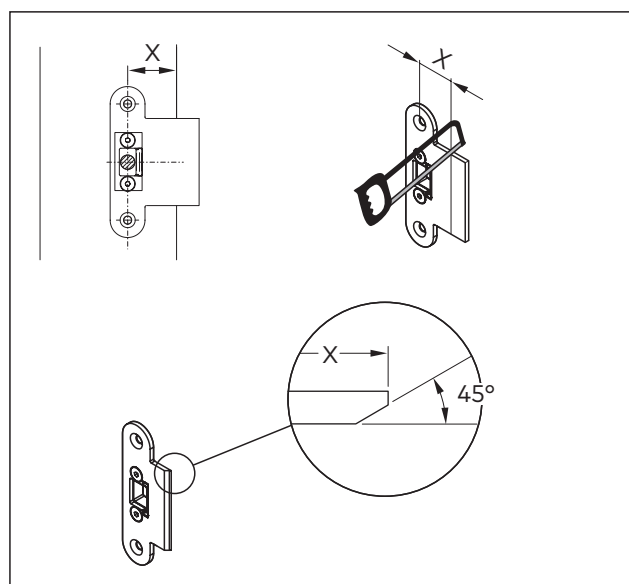

Fig. 52 Dimensions of the adjustments
17. Adjust the rod striking plate (Fig. 52).